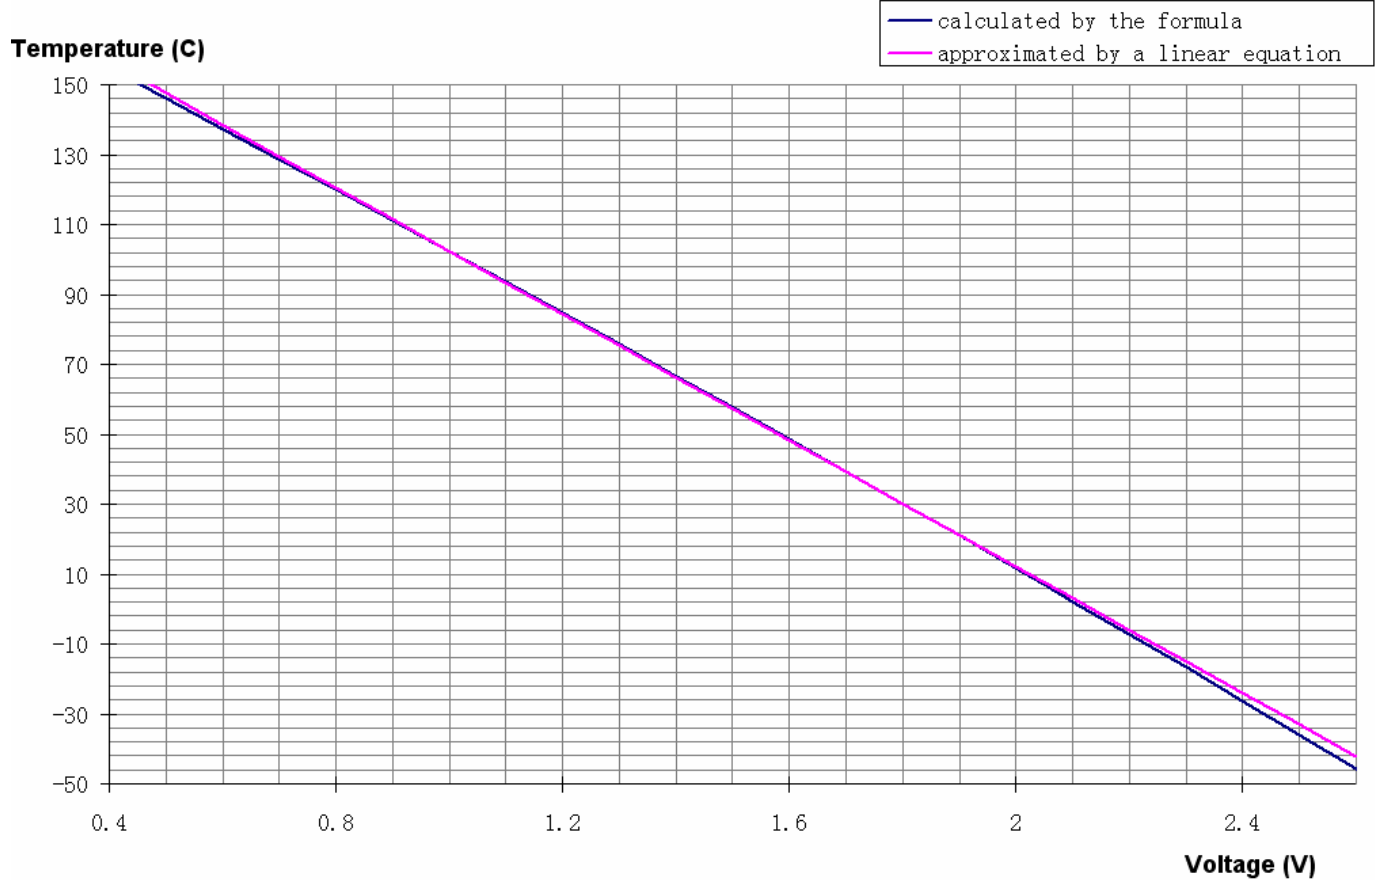

Figure 10 Controller Internal Temperature vs. TMPO Voltage
Within the most commonly used temperature range of between 0°C to 100°C, the maximum error occurs at about 1.5V, at which the temperature error between the calculated data by using the formula (1) and the approximated data obtained by using the linear equation (2) is about 0.4°C, with the linear data being a little lower. The curves of the 2 sets of the data are plotted in Figure 10.